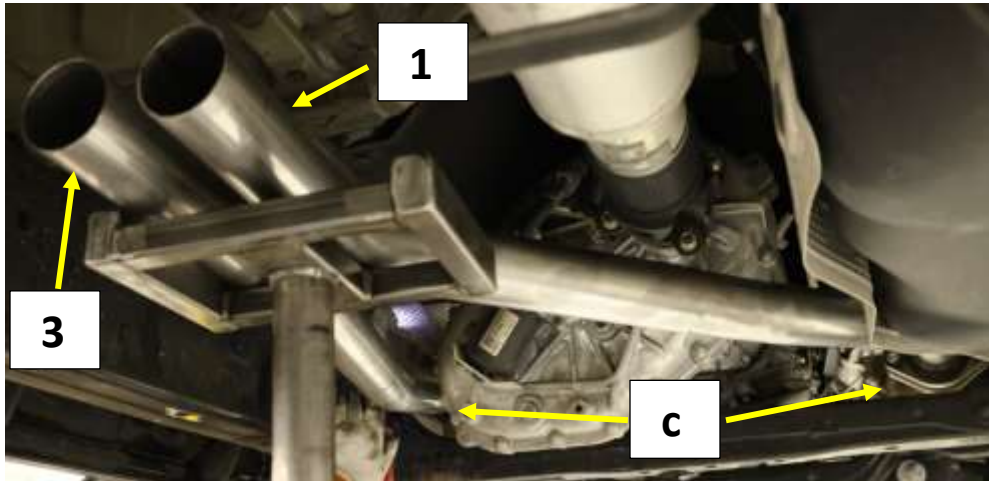

Figure 4
3. Install the extension pipes **(4)** if required on to the left and right inlet pipes **(1 & 3)**. **Fig.4**